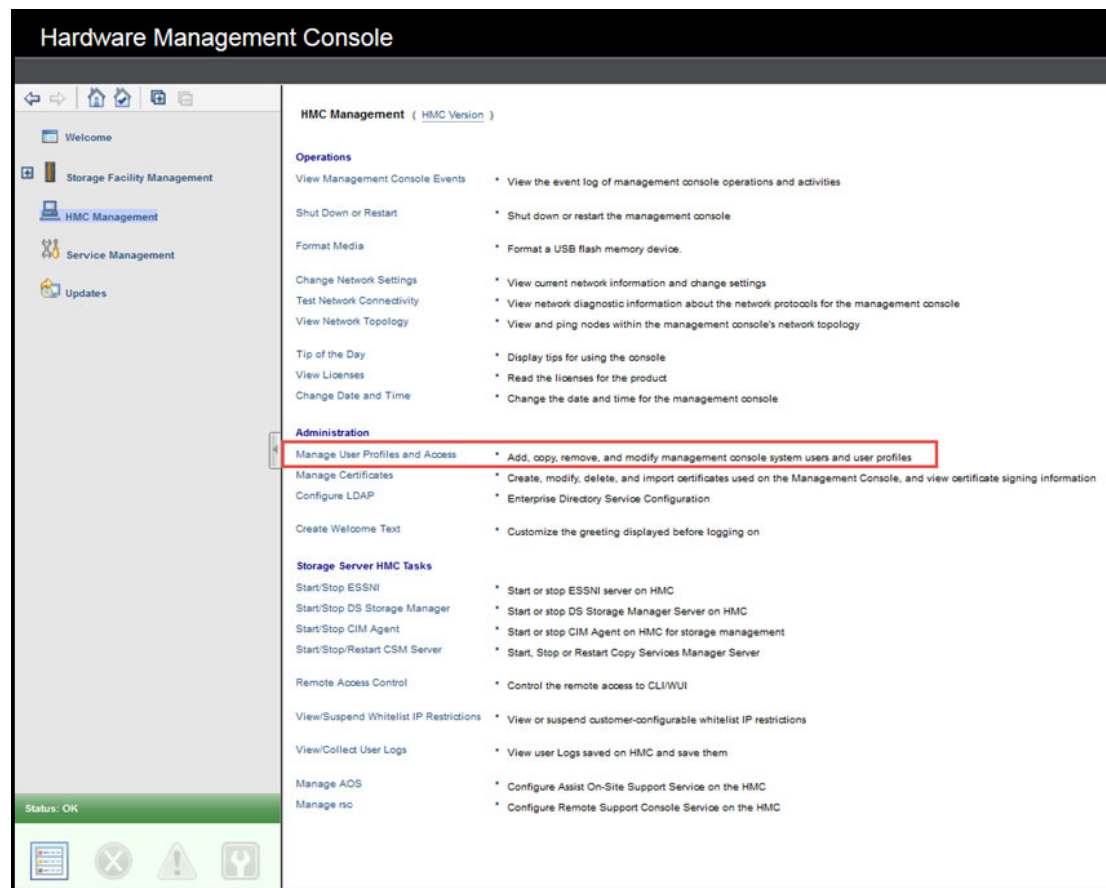

Figure 8-14 Manage User Profiles and Access
2. in the HMC Management window, select Manage User Profiles and Access as shown in Figure 8-14 Manage User Profiles and Access on page 239